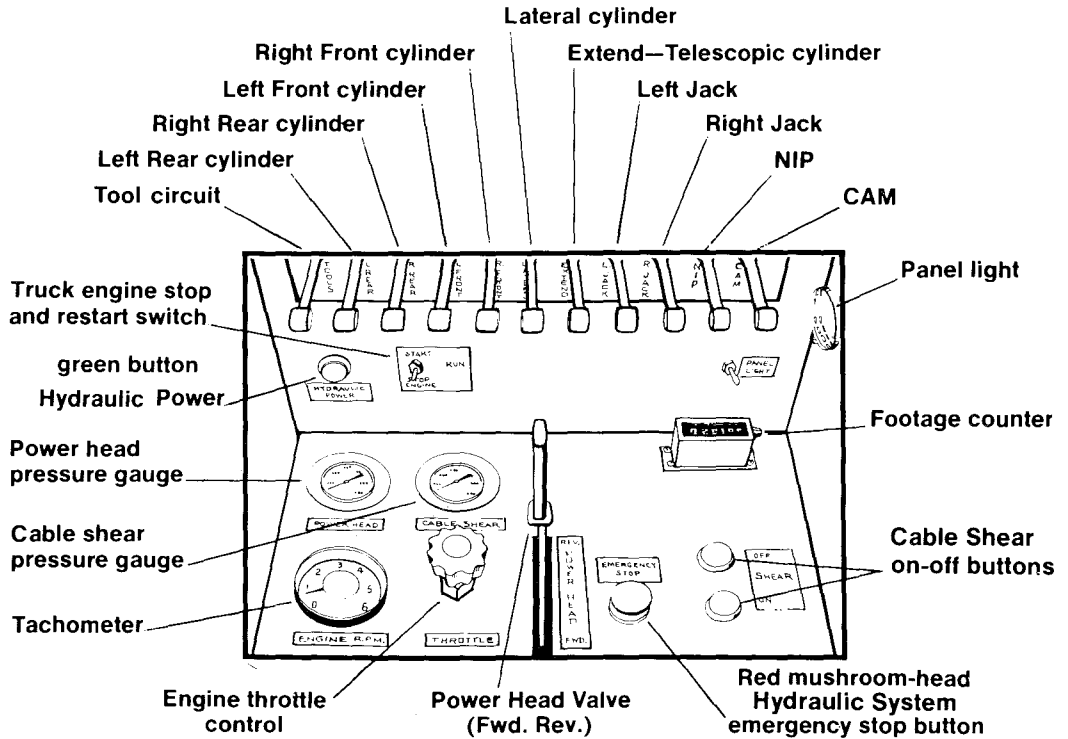

Fig. 2—Control Console
2.06 The operators control console (Fig. 2) is located on the curb-side rear of the truck body. All machine functions are hydraulically controlled and all controls are incorporated in the console. A tachometer, engine throttle, hydraulic